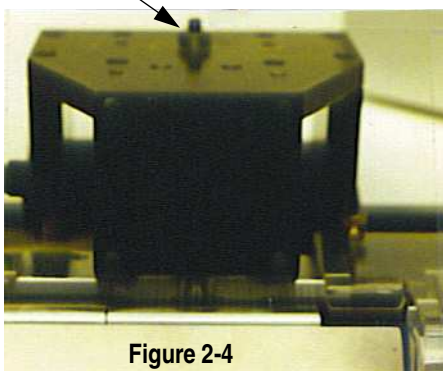

Figure 2-4
3. Then fine adjust the location shuttle adjustment base by turning the set screw on the edge of the stop block located to the right. Hold the connector against the shuttle blade while making adjustment. Turning the set screw “in” moves the connector to the right and “out” moves it to the left. See Figure 2-4.